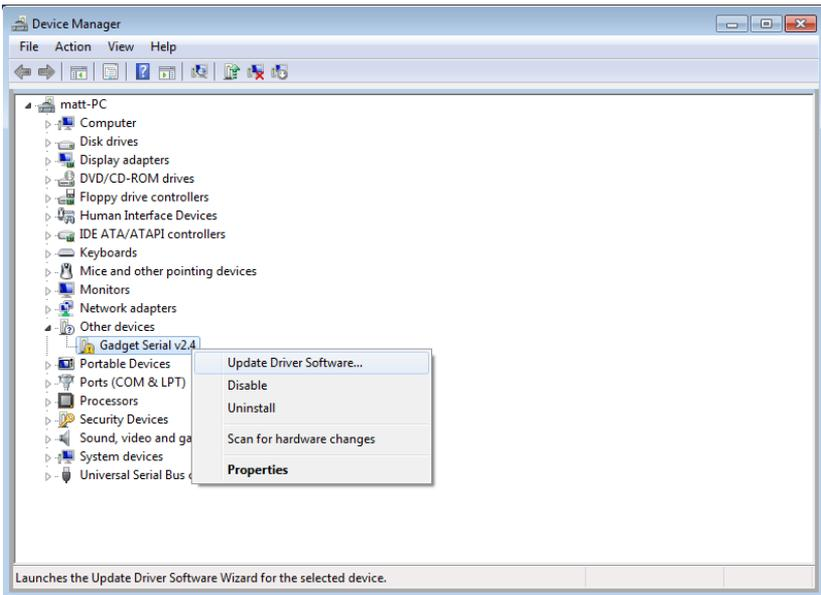

Figure E-3. Galileo will appear as “Gadget Serial V2.4” in your device manager before you install the driver.
4. Under Ports (COM & LPT), right-click Gadget Serial V2.4, and select Update Driver Software. (Figure E-3)